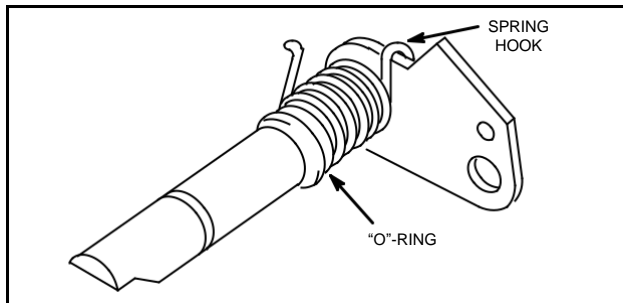

Fig. 164 - ASSEMBLE SPRING
1. Install return spring on shaft and lever assembly as shown in Fig. 164.